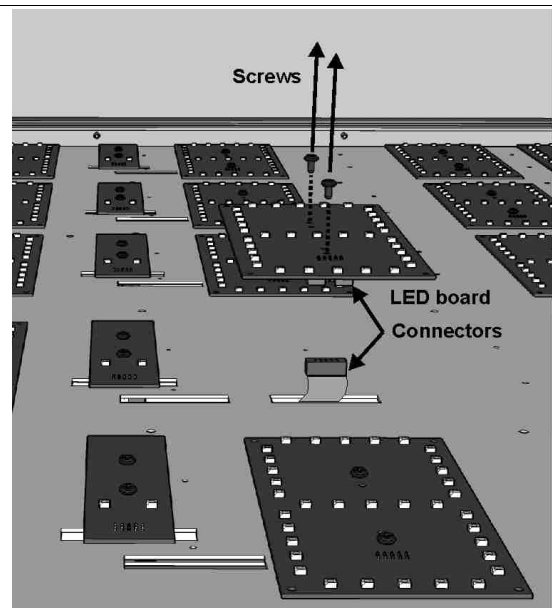

Fig. 17: Removing a LED display board
2. With a screwdriver, remove the screws from the LED display board in need of replacement (Fig. 17); slightly distance the board from its position in order to remove the flat cable connector.